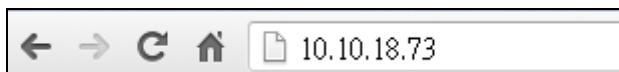

Figure 4-17: IEI iMAN Web Address
**Step 2:** On the remote management console, open a web browser. Enter the managed system IP address in the web browser (Figure 4-17).